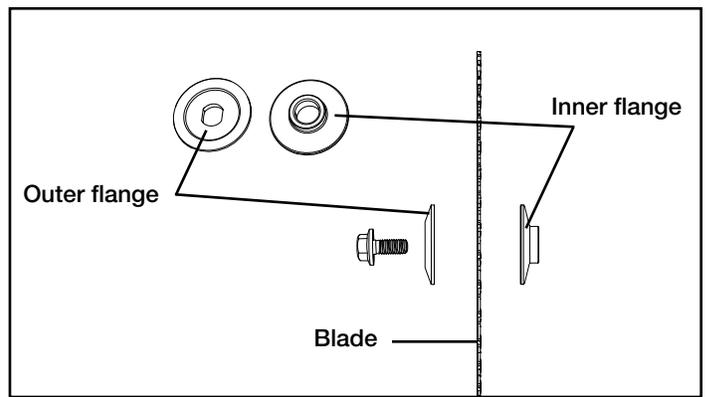

Fig. 37b
2. Ensure that the inner blade flange (Fig. 37b) is properly installed.
4. Install the outer blade flange (Fig. 37b).